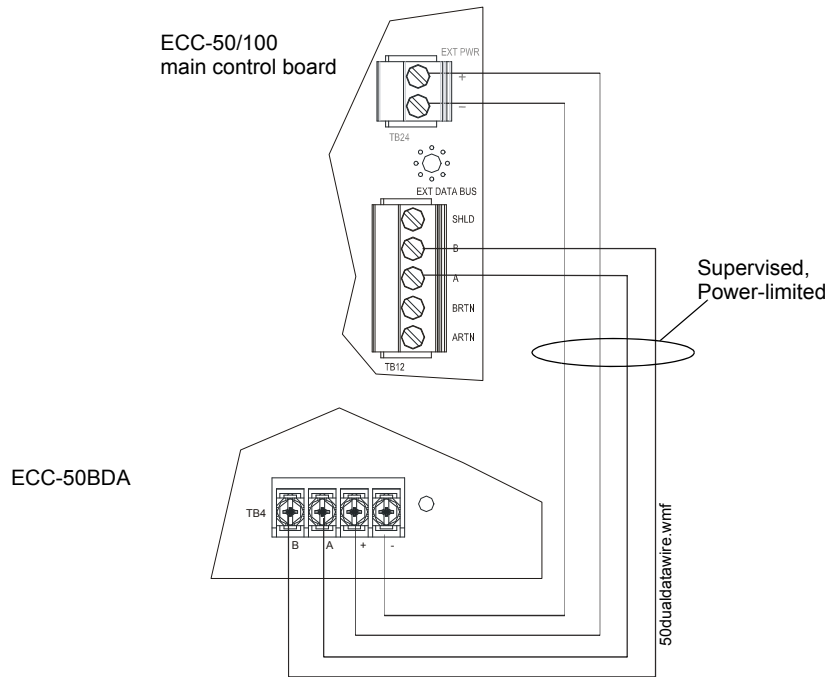
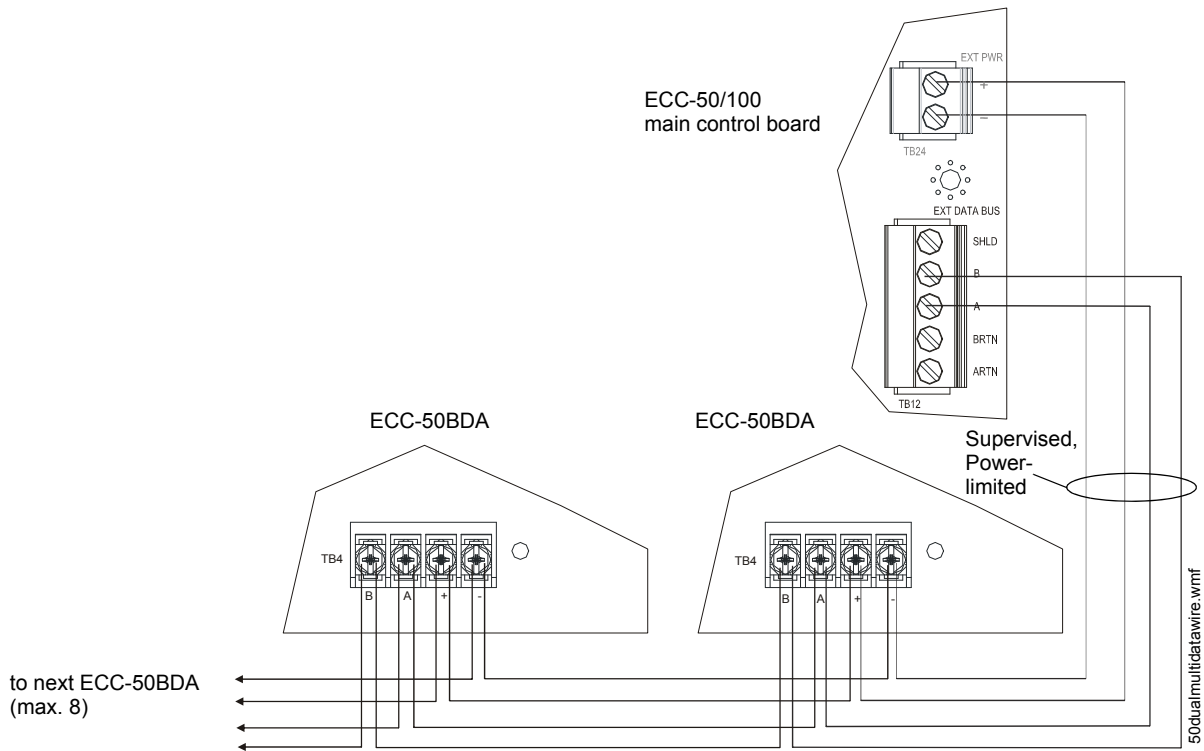

Figure 3.8 Data Bus Connections of the ECC-50BDA
Figure 3.9 Connecting Multiple ECC-50BDAs to the Data Bus
This section contains information on how to connect up to eight (8) ECC-50BDAs onto the main control Data BUS. Refer to the *ECC-50/100 Manual* for Data BUS specifications. Wire the Data BUS from TB12 on the main control board to the ECC-50BDA as shown in Figure 3.8 or Figure 3.9.